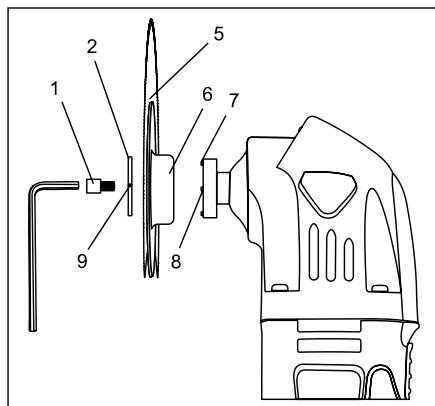

Fig. 2
2. Place the blade (5) on the accessory holder (Fig. 2).
a) Make sure the alignment slots (6) in the blade fit over the alignment pins (7) in the accessory holder and the printed side of the blade is facing the tool.
3. Thread the screw (1) through the washer (2) and the blade and into the accessory holder threaded hole (8).
a) Check to make sure the convex curve of the washer (9) is facing the head of the screw and the slots in the edge of the washer fit over the alignment pins in the accessory holder.